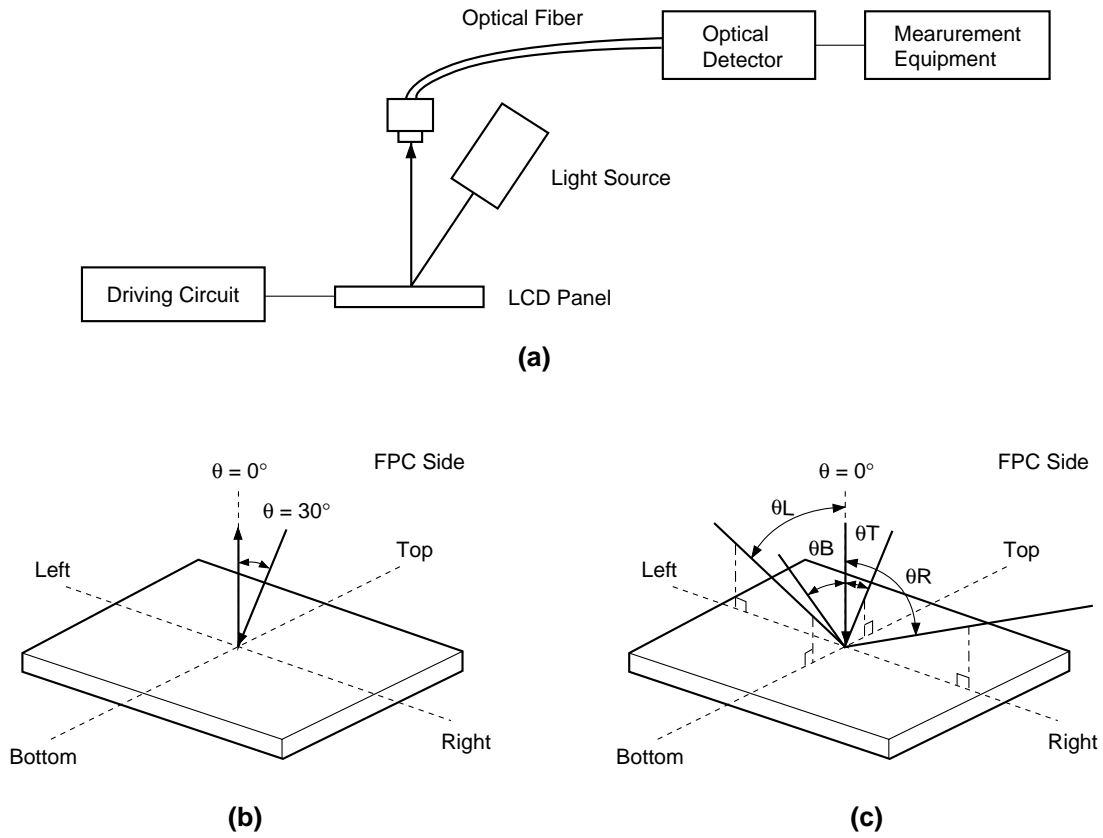

Fig. 1. Measurement System-1
1. Reflectivity (R)
In the system-1 (see Fig. 1 (a), (b)), calculate the reflectance factor by using the formula (1).
2. Contrast Ratio (CR)
In the system-1 (see Fig. 1(a), (b)), measure the reflectance factor of "White" and "Black" respectively and calculate by using the formula (2).
In the measurement system-1 (see Fig. 1 (c)), viewing area is defined by the area which makes the  $CR \geq 2$ .
In the system-1 (see Fig.1 (a), (b)), measure the signal amplitude across the liquid crystal where  $R(\text{relative}) = 90\%$  and  $R(\text{relative}) = 50\%$  and  $R(\text{relative}) = 10\%$  (see Fig. 4).